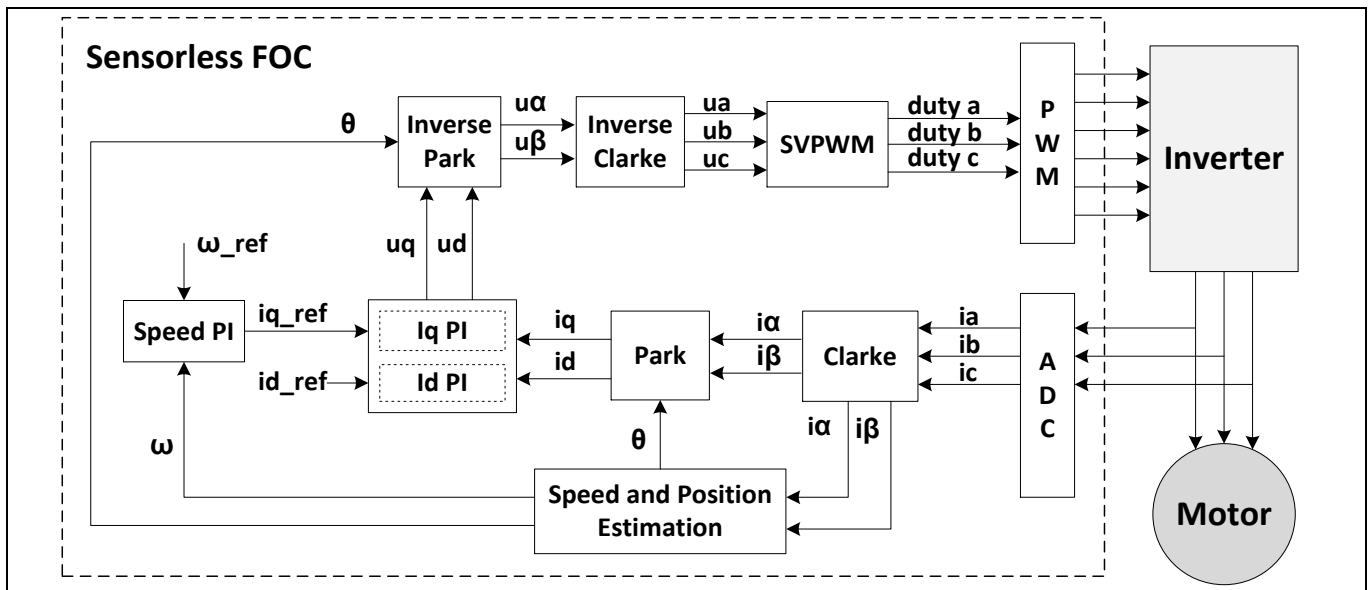
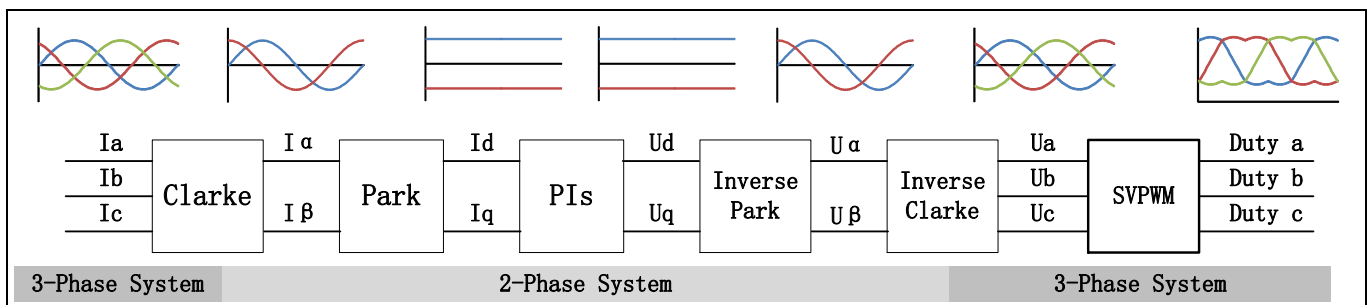

Figure 4 Sensorless FOC Control Block Diagram
Figure 5 Sensorless FOC Calculation Flow
Figure 4 and **Figure 5** show diagrams of the sensorless FOC algorithm and its calculation flow. The algorithm controls either the motor speed or motor torque using a proportional-integral (PI) controller based on a mathematical model of the PMSM (**Appendix A** describes the PMSM model). The control result is sent to a Space Vector Pulse Width Modulation (SVPWM) block (**Appendix C**). The SVPWM block generates three-phase voltages that change the stator currents.